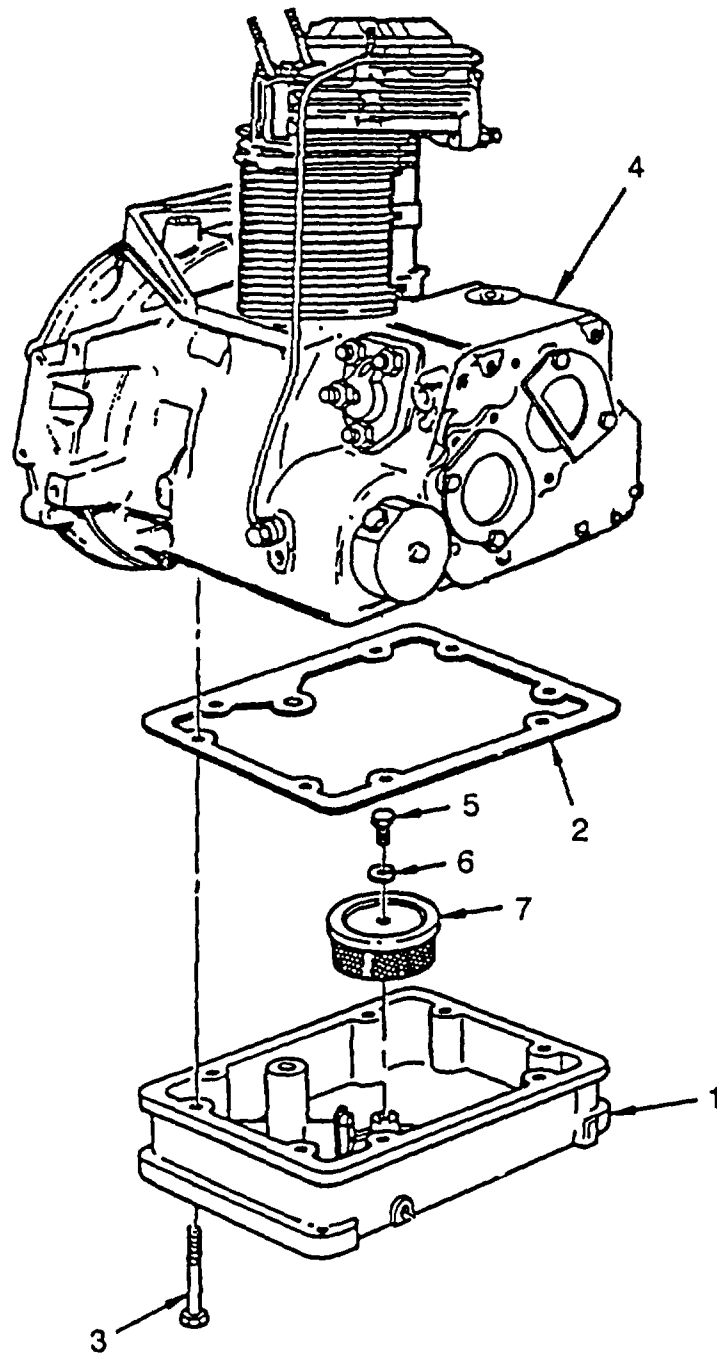

Figure 5-22. Oil Pan, Gasket and Strainer
(1) Removal. (Refer to Figure 5-22).